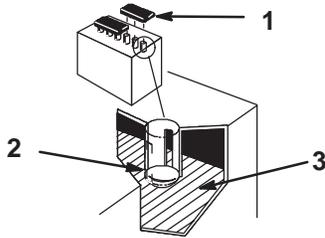

Figure 45
1. Open covers to see into the cells. The electrolyte must be up to the lower part of the tube (Fig. 45).
Important Do not allow the electrolyte to get below the plates. (Fig. 45).
2. Lift off the filler caps (Fig. 45).
3. Slowly pour distilled water into each battery cell until the level is up to the lower part of the tube (Fig. 45).